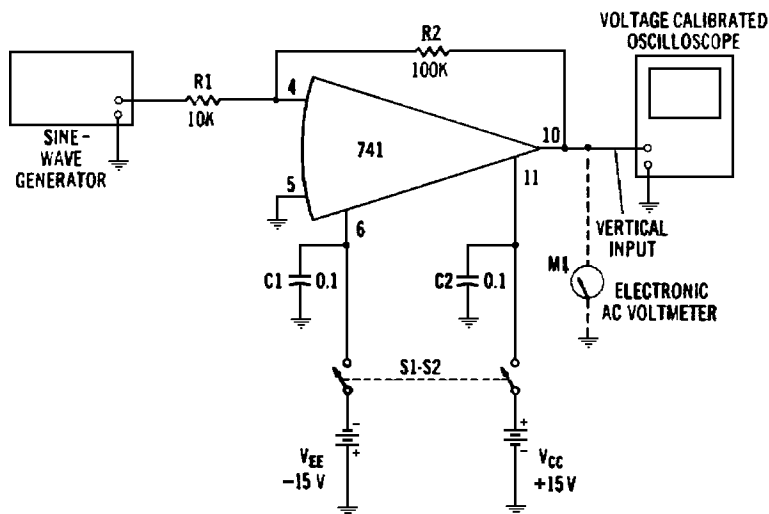

Fig. 2-19. Maximum ac output-voltage swing.
#### Required Equipment (Fig. 2-19)
1. With switch S1-S2 open, the oscilloscope off, and the generator off and its output attenuator set to zero, set up the test circuit as shown in Fig. 2-19.